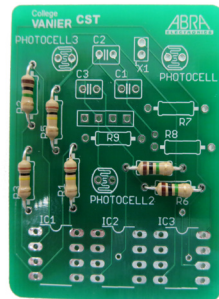

Fig.2
2. Install and solder R2, R4 and R6 (1M) resistors as per fig. 2.